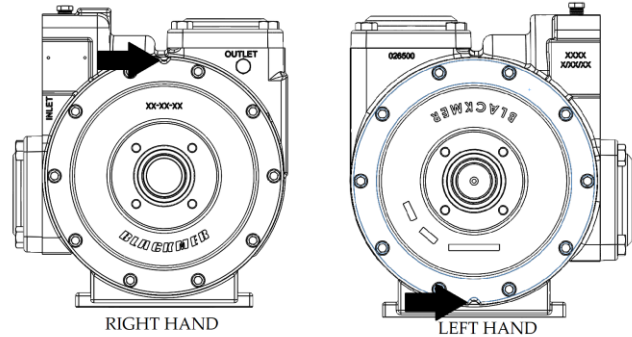

Figure 10 – Outboard Head Orientation
3. Install the head o-ring (72) into the outboard head (23 o-ring groove. Use a chemically compatible, high viscosity grease to hold o-ring into the groove. Place head onto cylinder (12), with the cast locating notch facing up for right hand built pumps and down for left hand builds. See Figure 10.